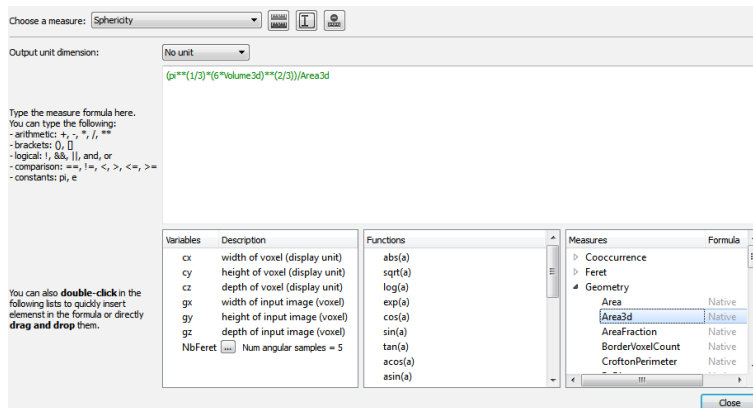

Figure 6.62: Measure edition
- Enter the sphericity formula in the dedicated field of the panel (see Figure 6.62).